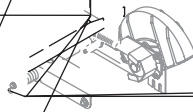

Figure 3-2
1. Locate the rope guide found on the right side of the upper handle. Loosen, but do **NOT** remove, the wing knob which secures the rope guide to the upper handle. See Fig. 3-2.
NOTE: The starter rope will not pull out of the engine unless the blade control (refer to Figure 3-2) is depressed against the upper handle.